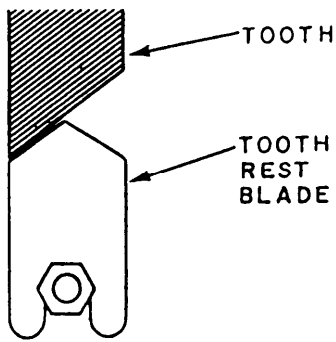

Figure 10-26.—Resting the face of a tooth on its corresponding side of the tooth rest blade.
7. Rest the face of a tooth on its corresponding side of the tooth rest blade (fig. 10-26).